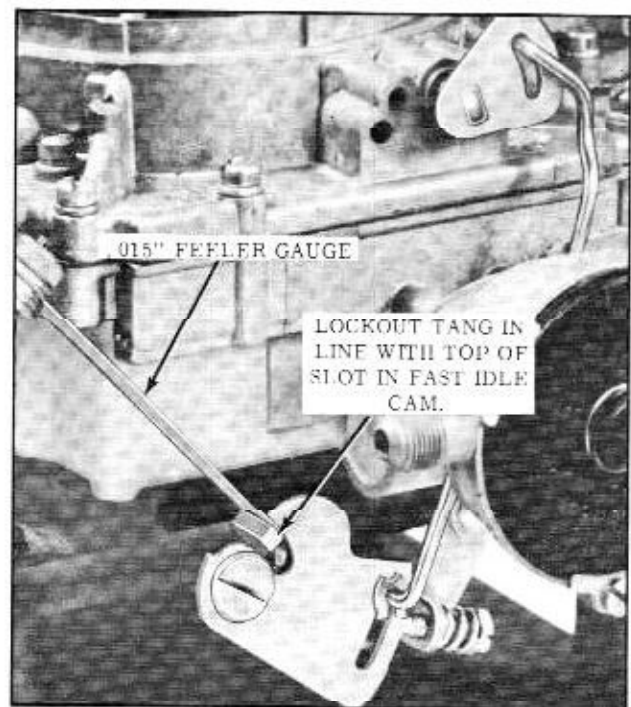

Fig. 8-115 Secondary Throttle Lock-Out Adjustment
1. Measure the clearance between the lock-out tang and the top edge of the slot in the fast idle cam. The clearance should be $.015'' \pm .005''$. (Fig. 8-115)